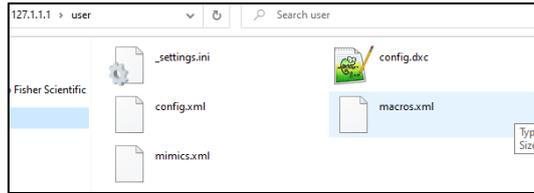

Figure 1: User folder showing config.dxc and config.xml
2. If the old program is already in the logger, you can access the dataTaker FTP server and go to the 'USER' folder and extract config.dxc file, check figure 1.